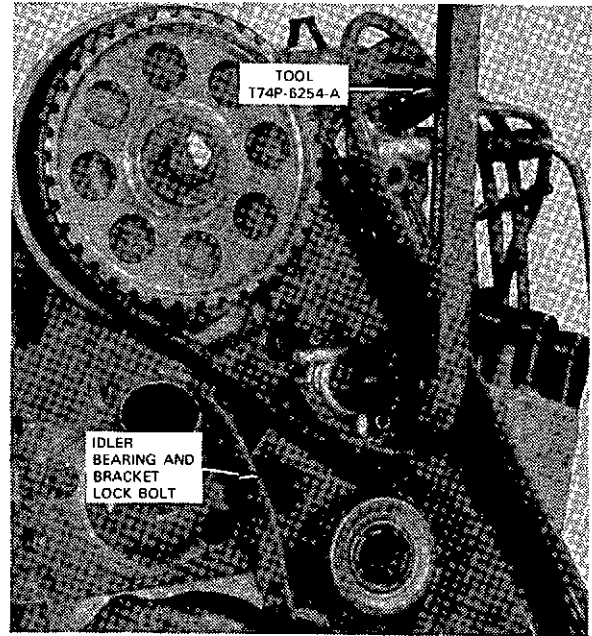

FIG. 37 Removing Timing Belt
3. After loosening the belt tension bracket bolt, and with the use of tool T74P6524-A (Fig. 37) relieving the belt tension, remove the belt.